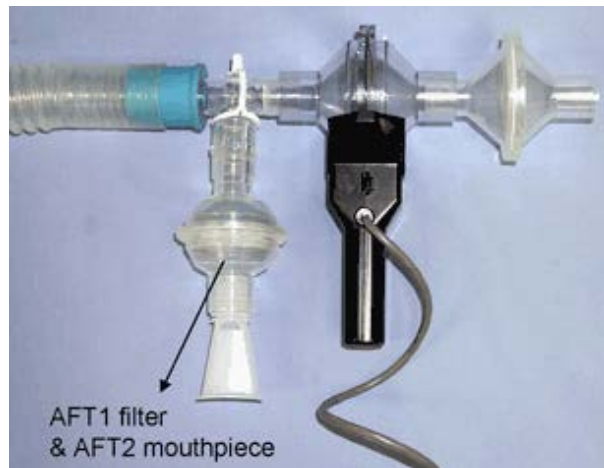

Figure 5: Schematic of airflow accessories with AFT1 filter and AFT2 mouthpiece
4. Replace calibration syringe with AFT1 filter and AFT2 mouthpiece (Fig. 5).